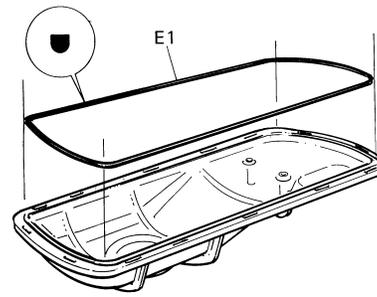

FIGURE 23
29. Wash the bowl and cover carefully with water and mild detergent, rinse them well, and replace them, making sure the sealing strip (E1) is positioned correctly between the cover and the bowl. To guarantee the seal, the rounded part of the sealing strip (as shown in FIGURE 23) must be facing the cover.